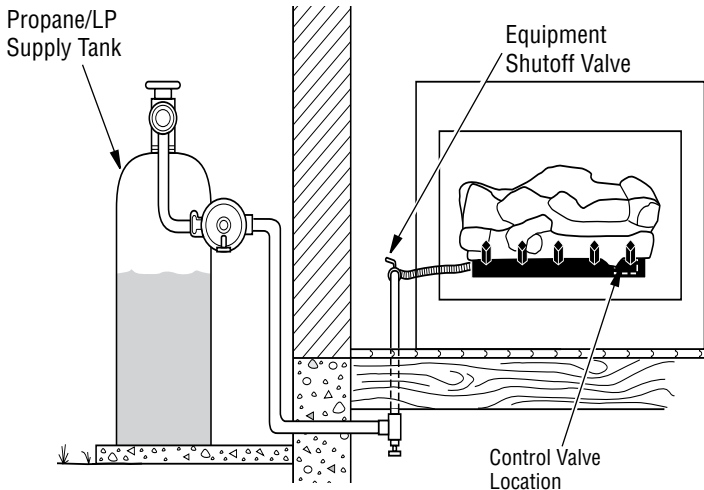
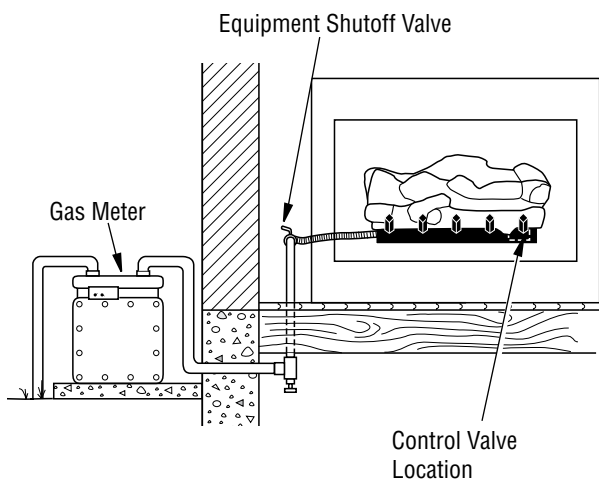

Figure 14- Checking Gas Joints (Propane/LP Only)
Figure 15 - Checking Gas Joints (Natural Gas Only)
3. Check all joints from gas meter to equipment shutoff valve for propane/LP (see *Figure 14 or Figure 15, Page 11*). Apply noncorrosive leak detection fluid to all joints. Bubbles forming show a leak.
4. Check all joints from gas meter to equipment shutoff valve for propane/LP (see *Figure 14 or Figure 15, Page 11*). Apply noncorrosive leak detection fluid to all joints. Bubbles forming show a leak.